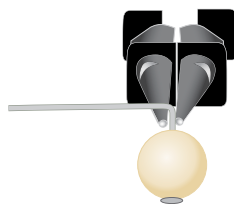

FIG. 19
3. Bend the wire back 90 degrees, over the jaw of the pliers (FIG. 19).